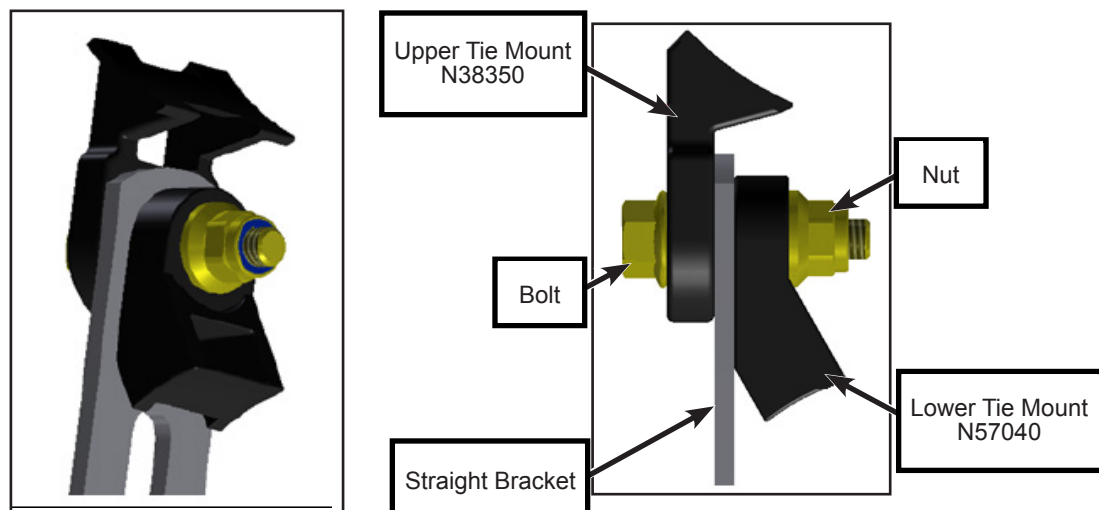

Figure 12 - Tie Mounts Installation
- 1.27. Install the two tie-mounts PN N57040 (1x) and PN N38350 (1x) on the straight bracket using the same mounting hardware (see figure 12).